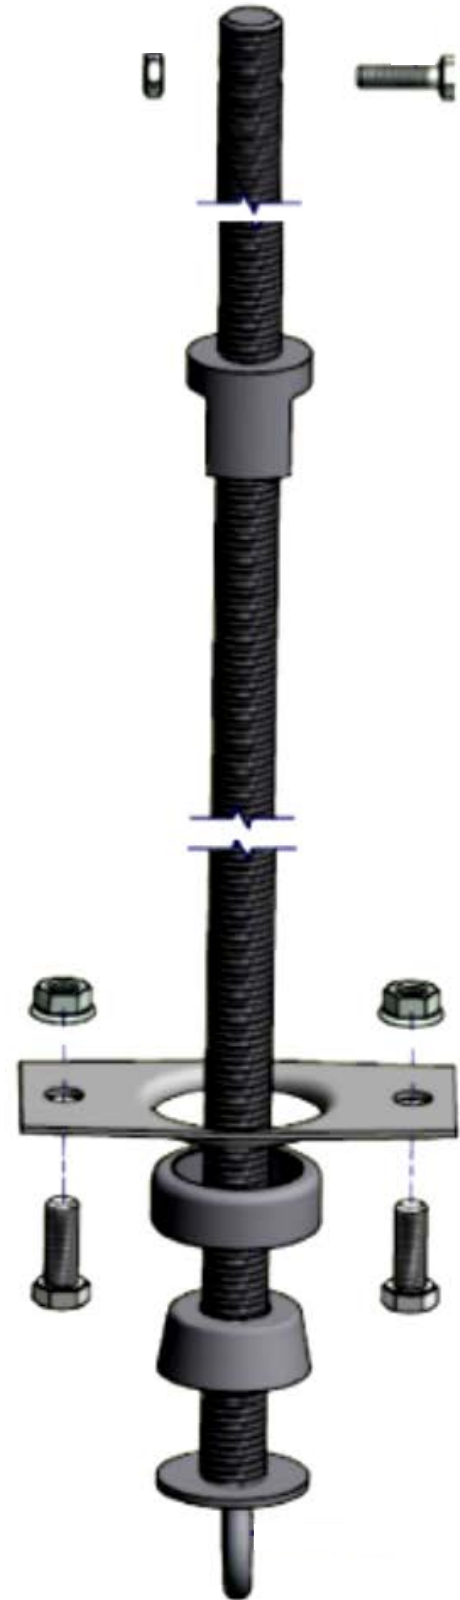

Figure 1
- ① Locate and identify all pieces.
- ② Do not paint inner slip tubes.
- ③ Tools: You will need 3/4" and 9/16" socket wrenches, and 3/4" and 9/16" wrenches or an adjustable wrench.
- ④ Be sure to apply lubricant (included) to T-Nut after installing threaded rod assembly.
① Manually crank backboard down to lowest height (this takes the weight off the unit; **DO NOT ATTEMPT TO REPLACE THREADED ROD ASSEMBLY WITH BACKBOARD AT NORMAL 10' HEIGHT.**)
② Remove the Threaded Rod Assembly and Nut Carrier Assembly.
③ Attach Nut Carrier and T-Nut to unit (see Fig. 1).
④ Install Threaded Rod Assembly through T-Nut and Nut Carrier (see Fig. 1). Make sure Threaded Rod Assembly is vertically plumb.
⑤ Install bolt and nut through pre-drilled hole at top of Threaded Rod.
⑥ Apply *entire tube* of lubricant (included) to T-Nut from top and bottom. As the threaded rod operates through the T-Nut, the lubricant will be spread onto the threaded rod as necessary.
⑦ Test operation.